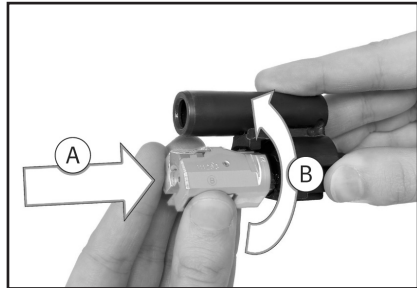

Fig. 47 – Insert bolt head
5. Place bolt head with extractor upwards Ⓐ onto locking piece (Fig. 47).
6. Turn bolt head counter-clockwise Ⓑ until the connecting piece audibly snaps into place (Fig. 47).